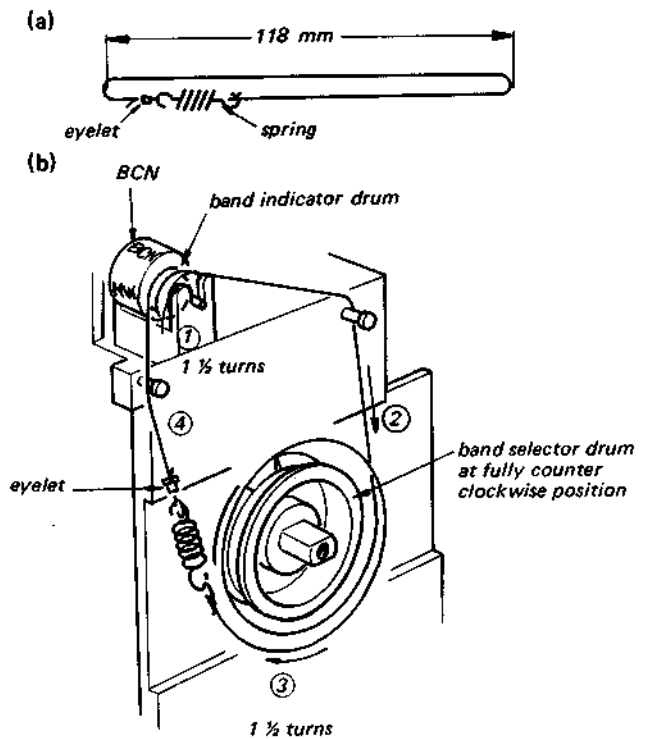

Fig. 2-10.
1. Fix the cord to the spring as shown in Fig. 2-10 (a).
4. String the cord as shown in Fig. 2-10 (b).